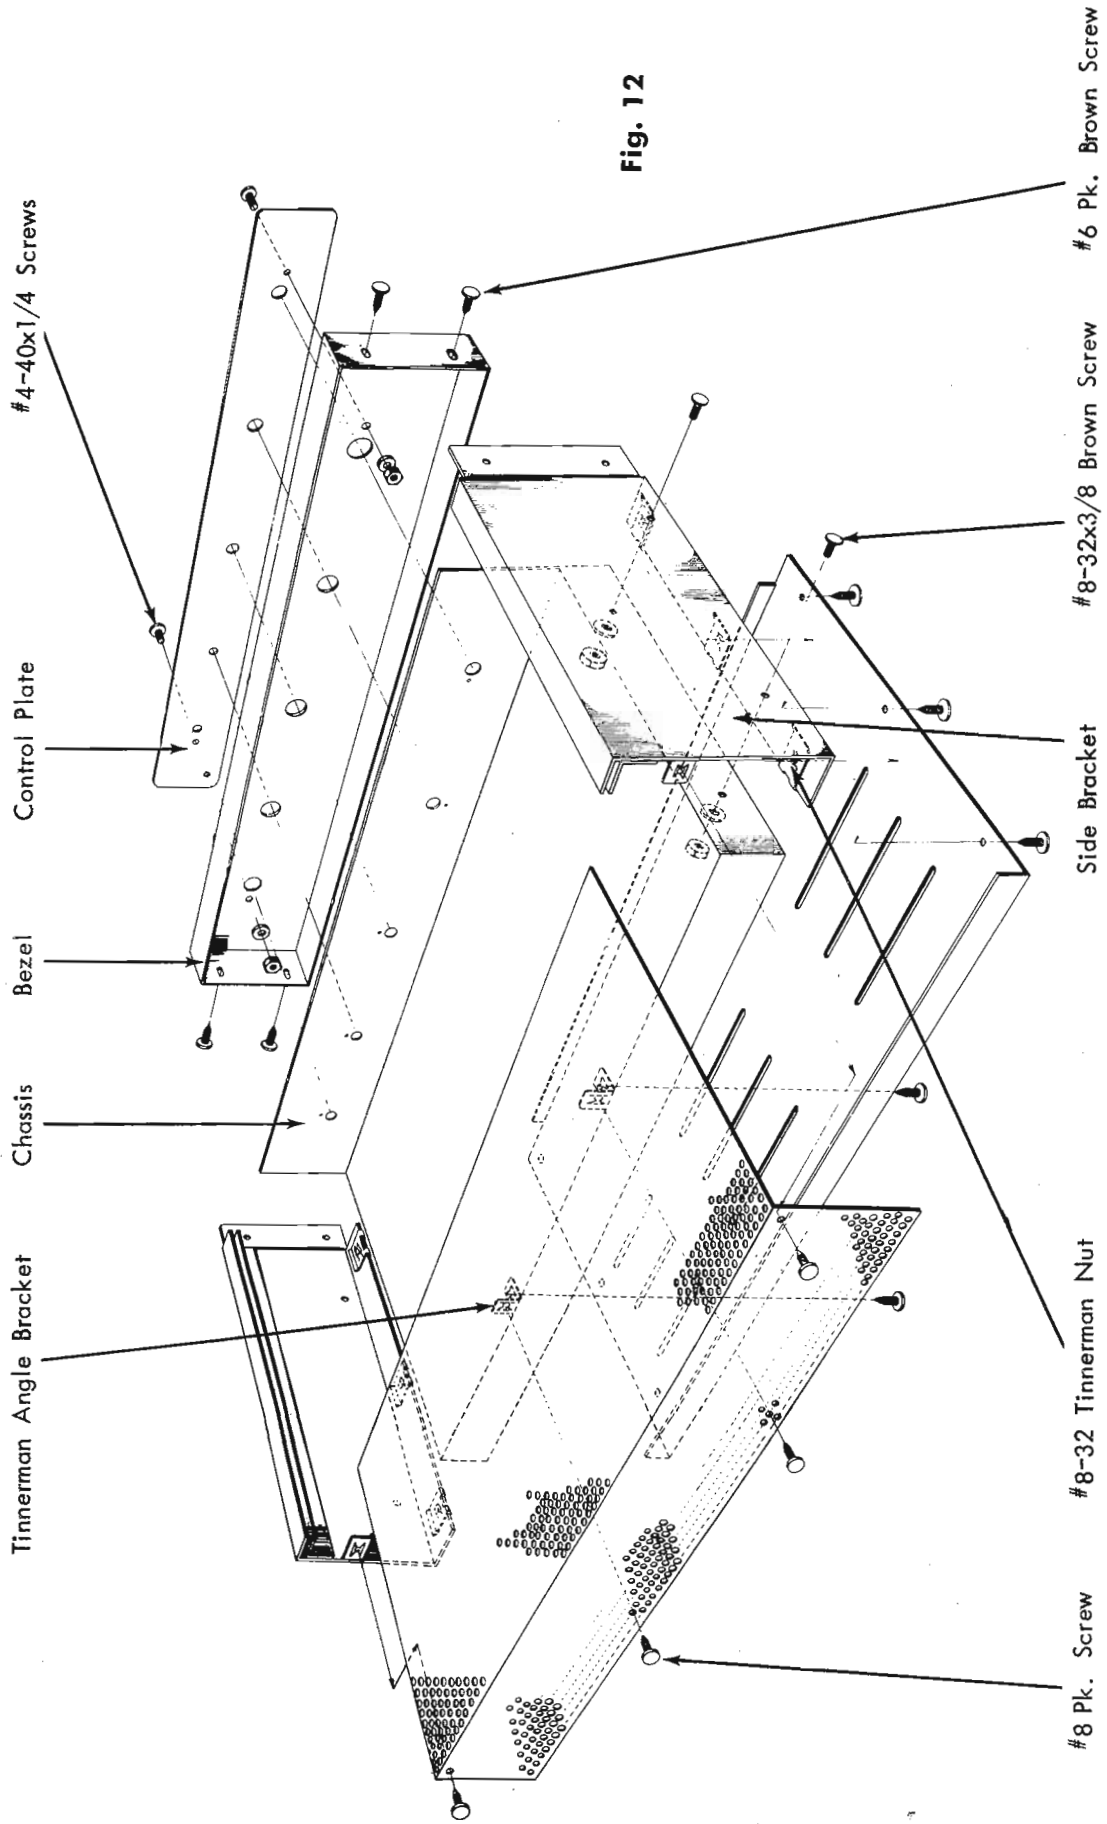

Fig. 12
4. () Fig. 12. Assemble the left and right side pieces to the chassis. Each side piece is mounted with two #8-32 x 3/8 brown colored screws, two #8-32 hex nuts, and two #8 lockwashers.
5. () Fig. 12. On the rear edge of the chassis surface, mount the two tinnerman speed nut angle brackets, using a #8 P.K. - Type Z screw for each.
6. () Fig. 12. On the bottom flange of each side piece, press a tinnerman #8-32 - Type J speed nut in place over each of the three holes. The shorter length of the nuts face up towards you.
7. () Fig. 12. Mount the bottom plate on the bottom flanges of the side pieces, using six #8-32 x 3/8 uncolored screws. Note that the rear flange on the bottom plate fits over the outside of the rear chassis apron.
8. () Fig. 12. Install the rubber feet in the openings provided in the bottom plate. The method is to work the rounded portion of each foot into the interior
9. () Fig. 12. Insert the perforated cover into the "rails" on the side pieces and slide it forward fully.
10. () Fig. 12. Mount the control plate on the bezel (locating the hole for the plastic pilot jewel, above and between the focus and bass controls, over the corresponding hole in the bezel), using two each #4-40 x 1/4 brass screws, #4 lockwashers and #4 hex nuts to fasten it to the bezel. Press the plastic pilot jewel into place on the control plate.
11. () Fig. 12. Fit the bezel and control plate over the projecting control and slide switch shafts, onto the ends of the side pieces and the perforated cover. Assemble the bezel to the side pieces with four #6 x 1/4 brown colored P.K. screws. Before tightening the screws finally, be sure there is adequate play to slide the perforated cover out.
12. () Fig. 12. Fasten the perforated cover to the two tinnerman angle brackets (previously mounted on the rear edge of the chassis surface) and the two angle brackets on the side brackets using four #8 P.K. Type Z screws.
13. () Fig. 12. Set all controls to the furthest counter-clockwise position. Mount the knobs on the shafts with the indicating dots pointing as follows: INPUT SELECTOR knob at AUX; a FUNCTION SELECTOR at STEREO; FOCUS at -5; LEVEL at 0; BASS knobs at -5; TREBLE knobs at -5.